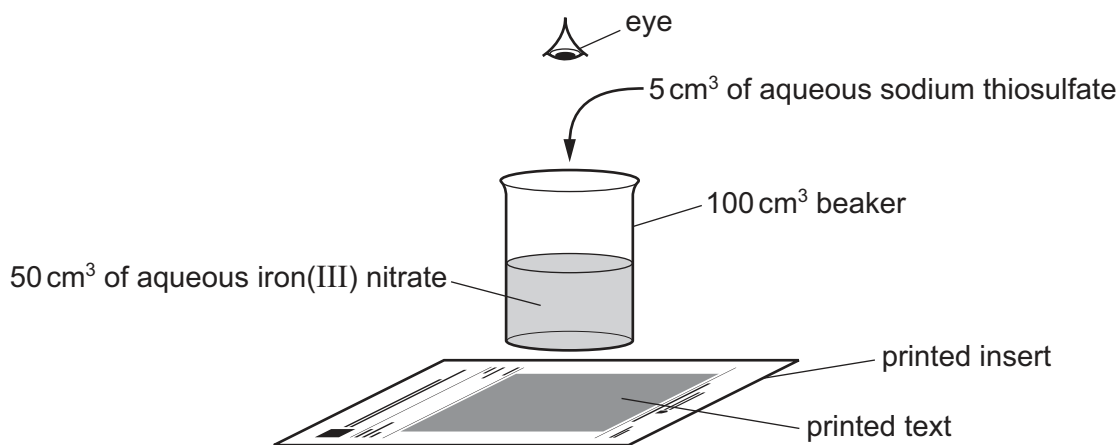

Fig. 1.1
You are going to do five experiments using the apparatus shown in Fig. 1.1.
- Stand the beaker on the printed insert as shown in Fig. 1.1.